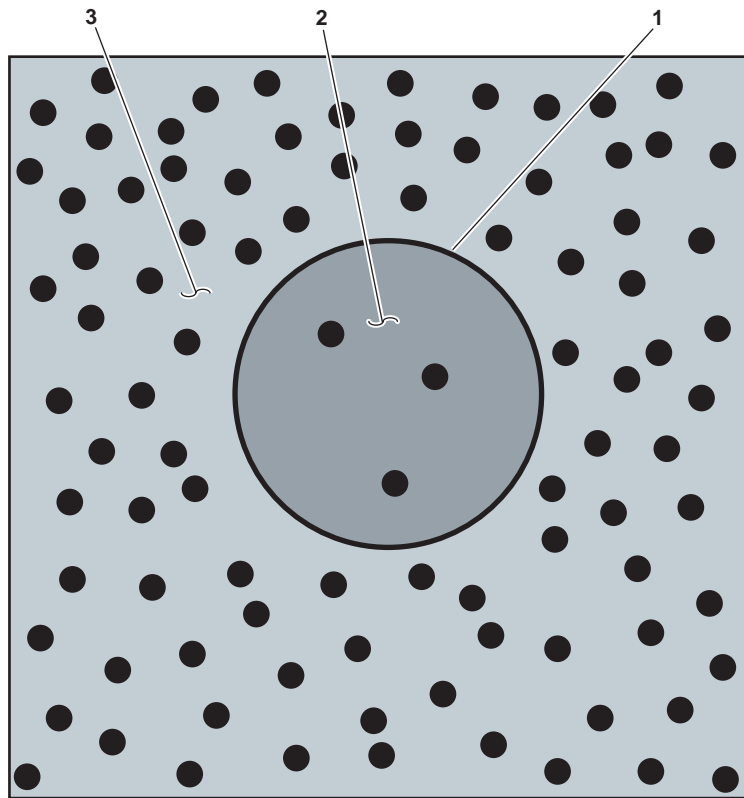
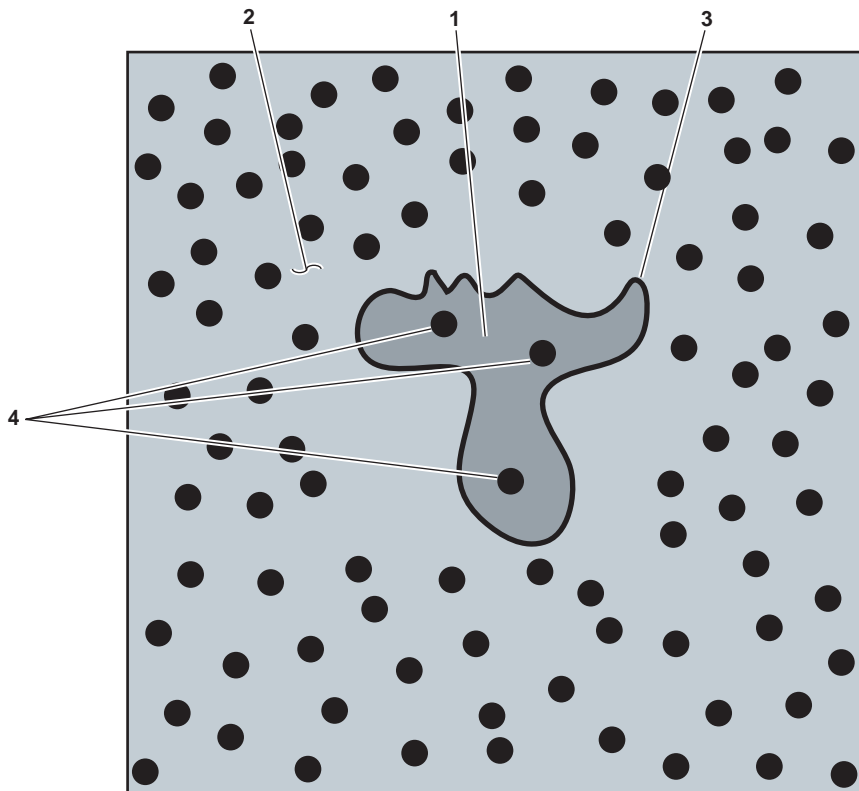

Figure 4. Living Cell Prior to Naturally Occurring Osmosis
Figure 5. Living Cell After Naturally Occurring Osmosis
Osmosis is the diffusion of two mixable solutions through a semi-permeable membrane in such a manner as to equalize their concentrations. Natural osmosis occurs when a substance of lesser salinity naturally diffuses through a membrane into a higher concentration salinity. Cellular functions in the human body function in this manner. The process is very energy efficient in that it requires very little heat or pressure. However, the warmer the liquids, the more efficient the process due to the activity of the molecules. It is a natural function for liquids of unequal density to try to equalize themselves with one another when they are in molecular contact. In natural osmosis, liquids that are less saline attempt to equalize pressure by becoming more saline. The membrane of a living cell (figure 4, item 1) passes lower density saline solution (figure 4, item 2) into higher density saline solutions (figure 4, item 3). This happens because the lower density solution (figure 5, item 1) inside the cell naturally moves to equilibrium with the higher density solution (figure 5, item 2) the cell is located in. The cell membrane (figure 5, item 3) allows liquid to pass, but it prevents particles (figure 5, item 4) from passing.